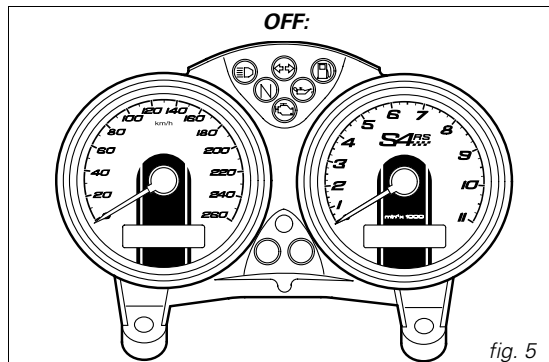
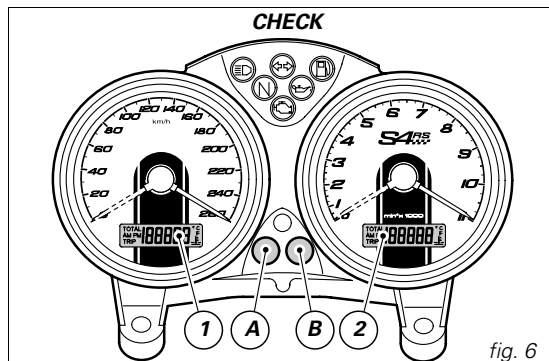

fig. 5
fig. 6
When the key is turned from **OFF** to **ON**, the instrument panel runs a **check** on all instruments (pointers, display, lights) (fig. 5 and fig. 6).
Press the button (B, fig. 6) with the key turned to **ON** to switch between display of the trip meter and the odometer.
Hold down button (B, fig. 6) for more than 2 seconds in **TRIP** mode to reset the display (LCD 1).
Press button (A, fig. 6) with the key turned to **ON** to display the clock and coolant temperature.
Press button (B, fig. 6) for at least 2 seconds.
To select **AM/PM**, press button (B, fig. 6). Press button (B) to select the hour setting function. Press (A) repeatedly to change the hour indication. Press button (B, fig. 6) to enter the minutes setting mode.
Press button (B, fig. 6) within 5 seconds after the ignition key is turned to the **ON** position to adjust the brightness of the backlight. The brightness changes at each press of the button.